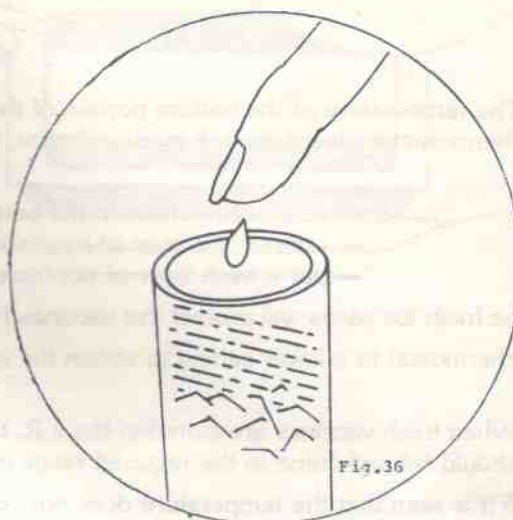

Fig. 36
8. Water in the tubes will be frozen, within 1-3 days, depending upon different conditions. When the ILR is functioning as a Refrigerator it may not be frozen fully, but partially on the bottom side (fig. 36).